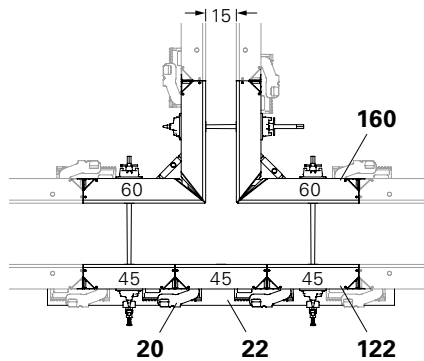

Fig. C5.01
- Wall thickness 15: Fig. C5.01